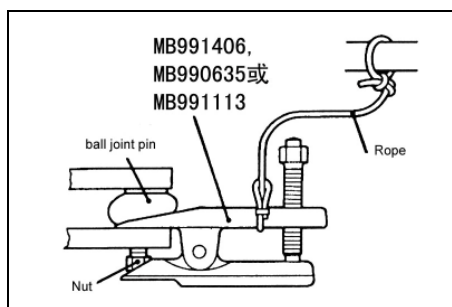

Fig.12-6
(3) Tie rod end disconnection(see Fig.12-6)